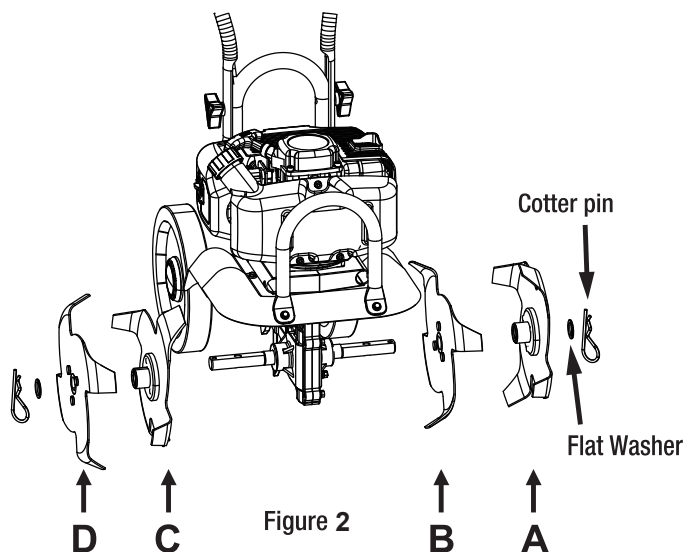

Figure 2
- Install the tines in turn as shown below and secure them Flat Washer and Cotter Pin. See Figure 2